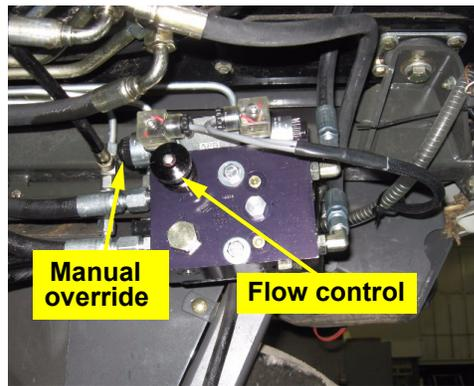

Figure 8: Steering block manual override and flow control button
- Turn counter clockwise to increase flow (Figure 8).
- e. The coils on the Automated Steering Block have manual push button overrides. Push either manual override to move the steering wheels all the way to one extreme (Figure 8).
- f. While pressing the override button of the other coil, count the number of seconds for the steering wheels to move all the way in the opposite direction (Figure 8).